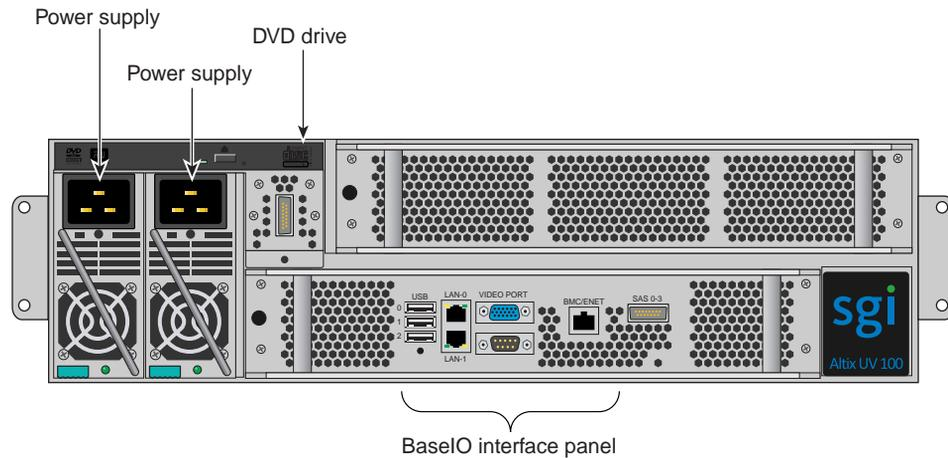

Figure 3-5 UV 100 IRU Front Components
- **Individual Rack Unit (IRU).** This 3U high enclosure contains two power supplies, one or two compute/memory blades, BaseIO and other optional riser enabled blades for the Altix UV 100. Figure 3-5 shows the Altix UV 100 IRU front components.